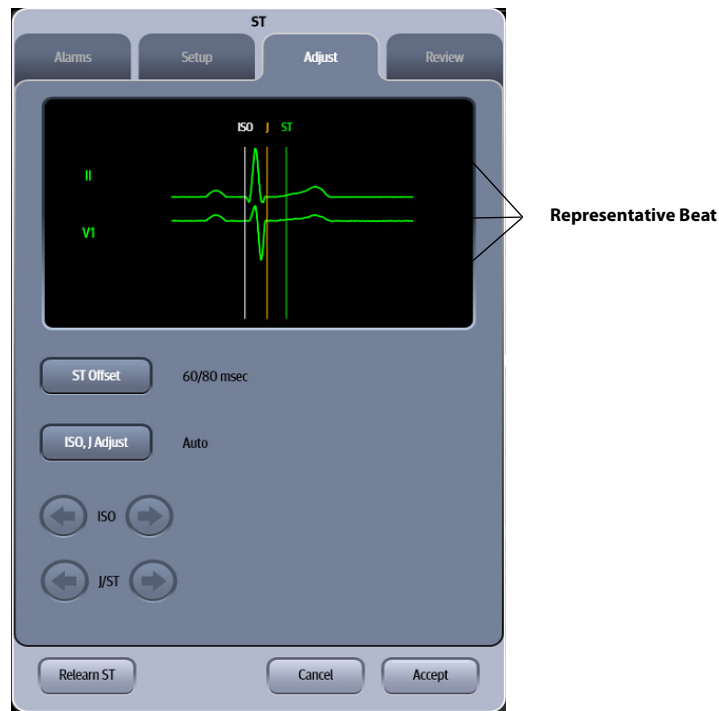

FIGURE 16-3 Example ST Dialog other than 3-lead (Adjust Tab)
2. Select the **Adjust** tab (as shown in FIGURE 16-3).
NOTE: When using a cable type other than 3-lead cable, the ST Adjust dialog displays two (2) valid representative beats as shown in FIGURE 16-3.